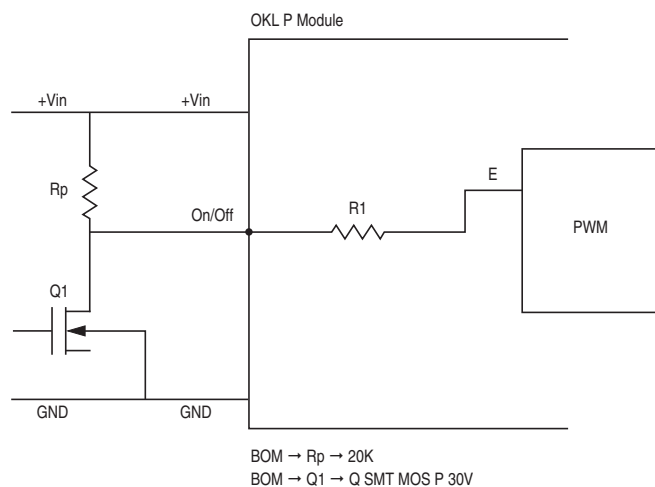

Figure 7. On/Off Circuit Control for Using Positive On/Off Logic
The OKL Series power modules can be specified with either a positive or negative logic type. See Figures 7 and 8 for On/Off circuit control. In the positive logic on/off option the unit turns on during a logic high on the On/Off pin and turns off during a logic low. In a negative logic on/off option, the unit turns off during logic high and on during logic low. The On/Off signal should always be reference to ground. For positive or negative option, leaving the On/Off pin disconnected will turn the unit on when input voltage is present.
**Positive**—Units are enabled when the on/off pin is left open or is pulled high to +Vin. The On/Off circuit control is shown in figure 7. When the external transistor Q1 is in the off state, the internal PWM enable pin is pull high causing the unit to turn on. When Q1 is turn on, the On/Off pin is pulled low and the units is off. Rp should be around 20K ohms.